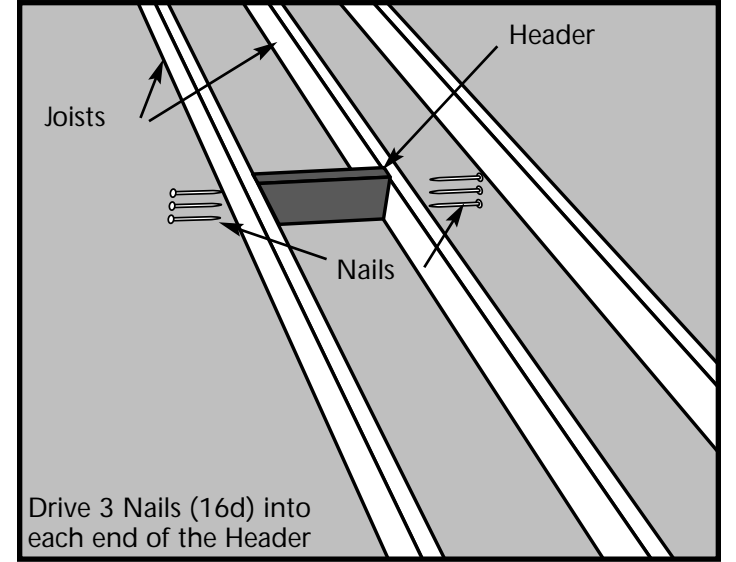

Figure 13
- STEP 3. Place one of these headers at one end of your chosen location (Figure 13). The header must fit snugly between the joists. Hammer it into position if necessary; if it is more than 1/16 inch too long, trim it. If it is more than 1/16 inch too short, cut another piece.
- STEP 4. Square the header to one joist and drive 3 nails (16d) through the joist and into the header. Check for squareness and drive 3 nails (16d) through the other joist and into the header (Figure 13).